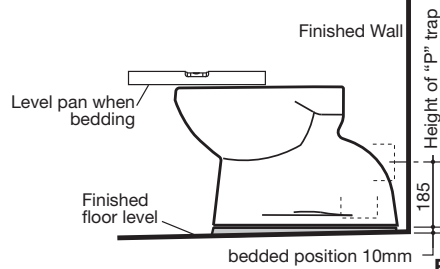

Fig. 3
- 4- Position pan and connect with pan connector and level pan into bedding mixture, so that the back of the foot of the pan is approximately 10mm above the finished floor as detailed in Fig 3 . It is recommended that wedges are used to support the foot of the pan during the positioning.